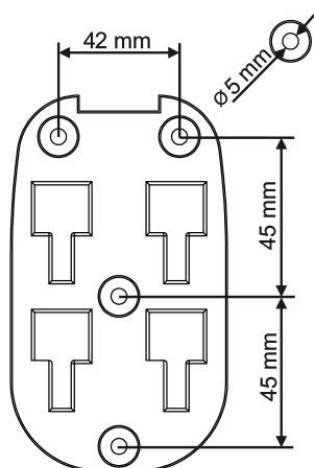

figure 1
Use the wall mounting part (1) to mark the fixing points on the wall. Take into account the dimensions between holes and the diameters marked in figure 1. Drill wall and insert wall fixings. Screw wall mounting part to wall. Ensure that suitable screws and wall fixings are used. If in any doubt contact a suitably qualified expert.